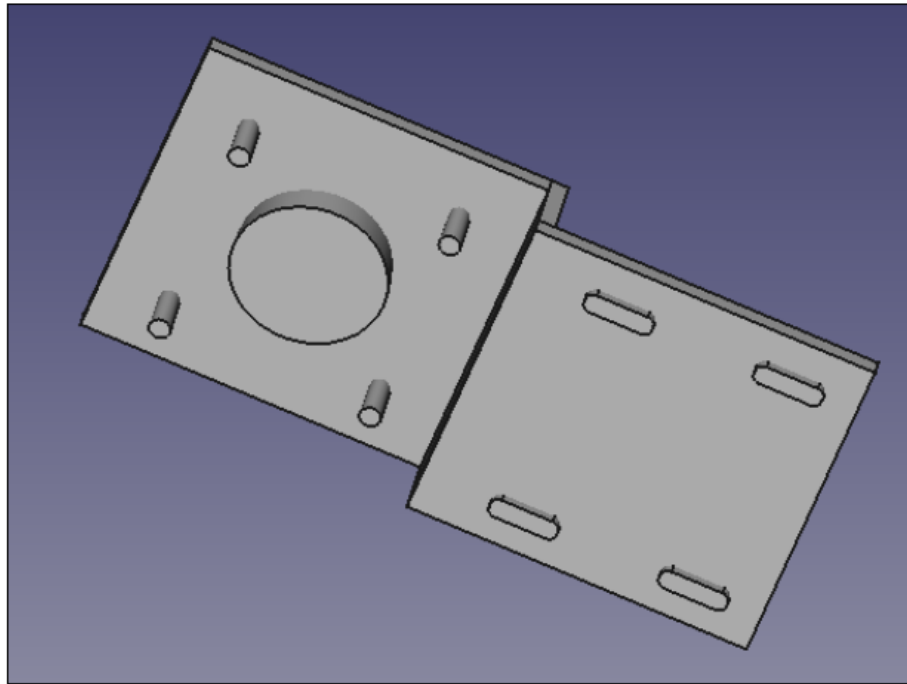

Figure 65 – Part 5 with an extrusion
2. Create an object with a cutout - Part 5 (Figure 65).